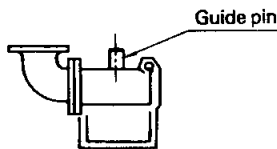

Fig. 1
- (1) Secure the unit horizontally with the anchor bolts. If, for some reason, the unit has not been anchored properly, it may tilt and its performance may be impaired. For models LM and LL, join the pump discharge elbow to the unit.
- (2) For models LMM, LM and LL, set accessory guide pins as shown in Figs. 1 and 2.